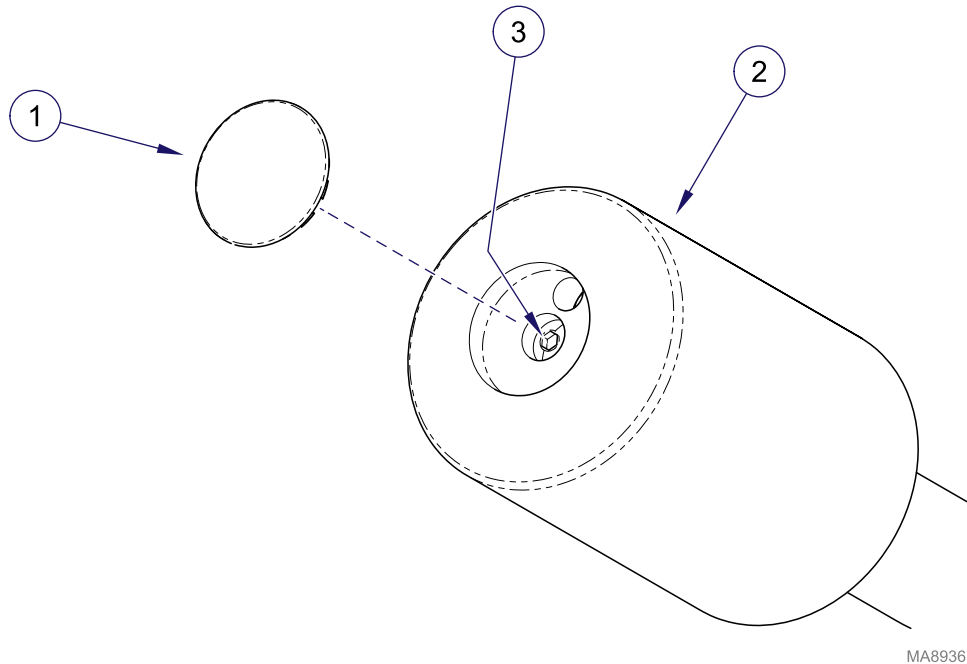

Figure 11. Cross Tube Counterbalance Adjustment
- (1) Install housing cap (2, figure 11) on ballast housing (3) and secure with screw (1).
- (3) Insert screwdriver into adjustment hole (4). Then, using the screwdriver, rotate ball pivot cam (5) to the assembly / disassembly setting. Remove screwdriver.
- (4) Remove housing cap (1, Figure 11) from ballast housing (2).